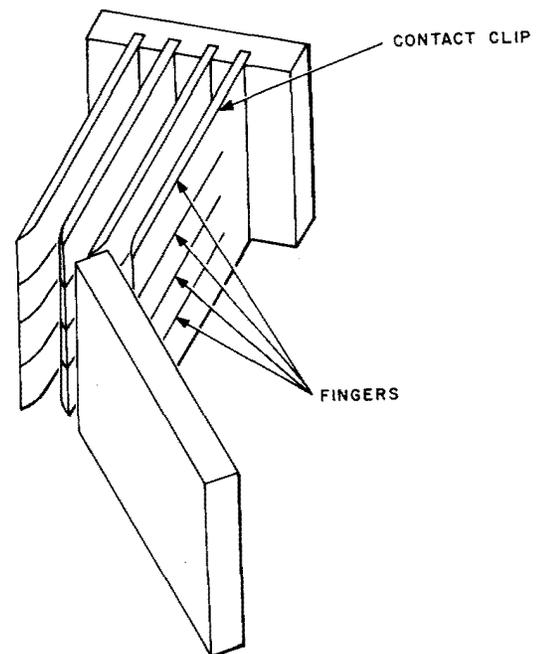

Fig. 10—Hardwood Block Positioned to Bend Contact Clip
(1) If the convergence of one or both contact clips in a pair is too great or too little, as indicated by binding or poor contact with the associated movable contact, bend the clip or clips slightly as follows. Referring to Fig. 10, place the end of the 3/4- by 4- by 6-inch hardwood block against the front edge of the clip so it engages all the fingers. Position the block to decrease the convergence of the clip if the clip binds or to increase the convergence if the clip makes poor contact. Then, using the ball peen hammer, tap the block to bend the clip. Take care to avoid excessive bending of the clip. Recheck the requirement, and check requirements 4.06 and 4.10.
(2) To line up one of the fingers of a contact clip with the other fingers, place one end of the 3/4- by 4- by 6-inch hardwood block against the front edge of the finger. Using the ball peen hammer, tap the block to bend the finger as required. Take care to avoid excessive bending of the finger. Recheck the requirements, and check requirements 4.06 and 4.10.